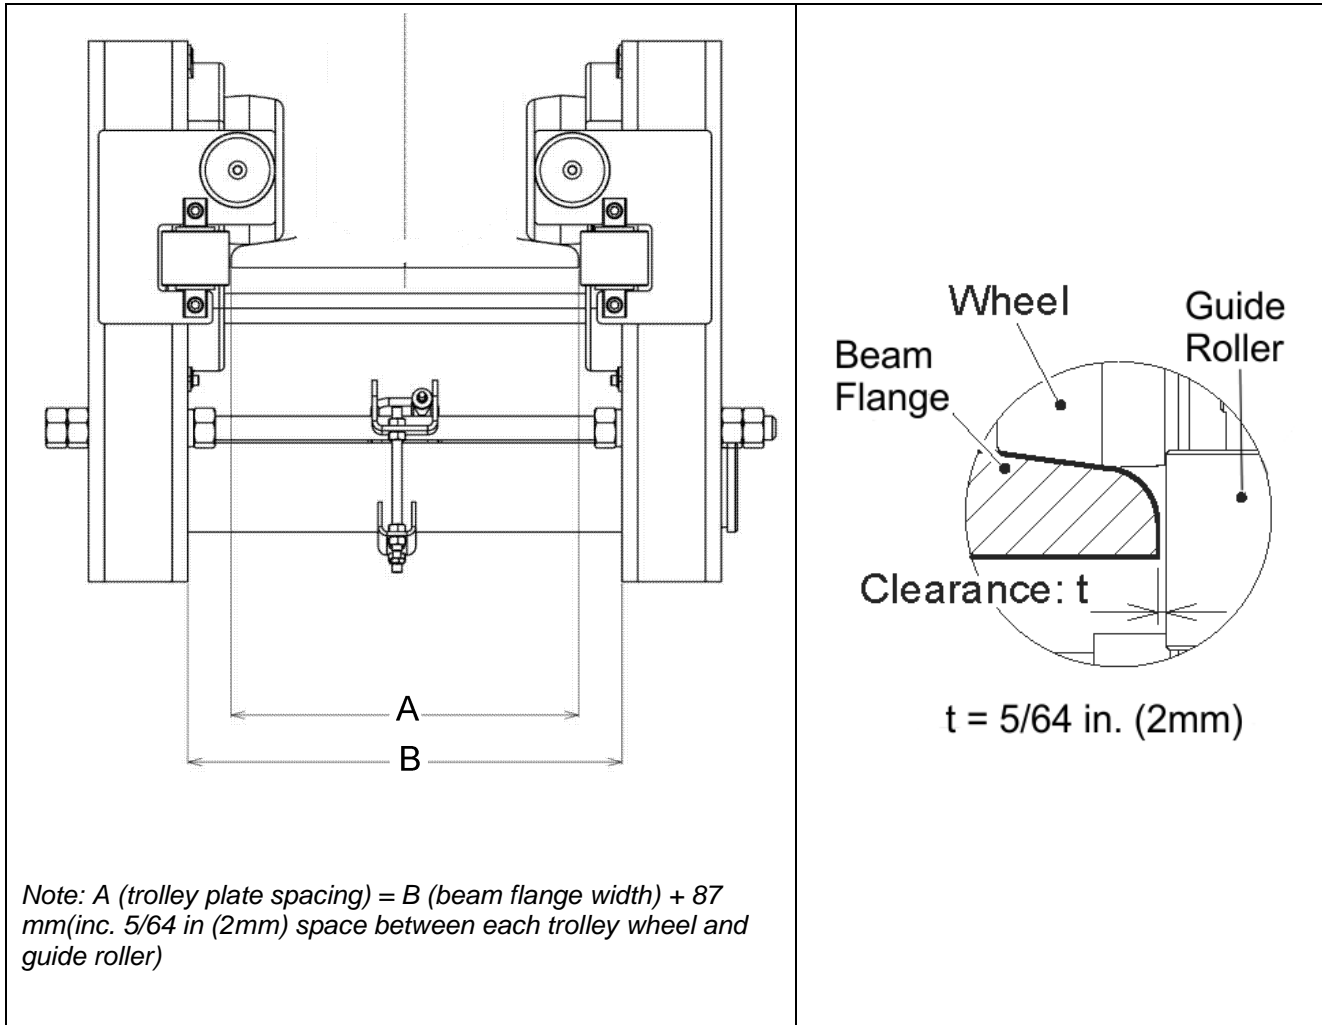

Figure 3-10 Trolley Flange Adjustment Example
- 4) Before attempting to install the trolley hoist, verify beam width, “B” and the “A” dimension as shown in **Figure 3-10**. Adjust flange width if necessary.
- 5) To widen the flange width: Loosen the adjusting nut on the outer side of the trolley frame (adjustment side) and tighten the nut on the inner side of the trolley frame (adjustment side) shown in **Figures 3-8**. This must be performed uniformly on both Adjusting Bolt locations on each end of the hoist as shown in **Figures 3-7**. Confirm dimension "A" as referenced in **Figure 3-10**.
To narrow the flange width: Loosen the adjusting nut on the inner side of the trolley frame (adjustment side) and tighten the nut on the outer side of the trolley frame (adjustment side) shown in **Figures 3-8**. This must be performed uniformly on both Adjusting Bolt locations on each end of the hoist as shown in **Figures 3-7**. Confirm dimension "A" as referenced in **Figure 3-10**.
- 6) If the end of the runway beam is accessible, slide the trolley hoist onto the end of the runway beam. Check the Trolley Wheel to Guide Roller clearance, "t". "t" = 5/64 inch (2 mm) as shown in **Figure 3-10**. Adjust the Trolley Frame as necessary to meet the Trolley Wheel to Guide Roller clearance, "t". (See **Section 3.4.1 Step 5** for proper adjustment procedure).
- 8) Once the hoist is in position with the beam flange wheel running surface, the trolley flange can be made narrowed to accommodate the respective beam flange width. Confirm dimension "t" = 5/64 inch (2 mm) as shown in Figure 3-10. (See Section 3.4.1 Step 5 for proper procedure to widen flange width. Figures 3-8, 3-9 and 3-10)